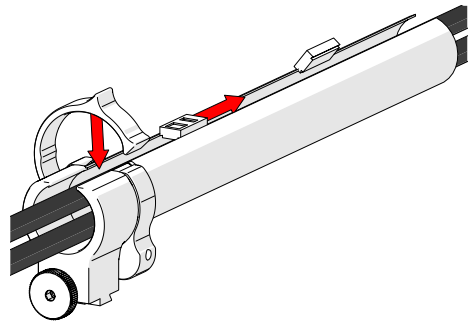

Fig. 34 - Zip up to close
2. Follow the cable placement, zipping the sleeving closed (*Fig. 34*).